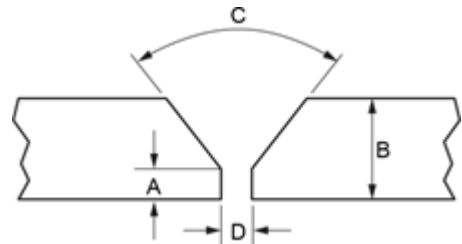

Figure 4 Image for Question 12
11. In Figure 4, A indicates the
12. In Figure 4, B indicates the
13. In Figure 4, D indicates the